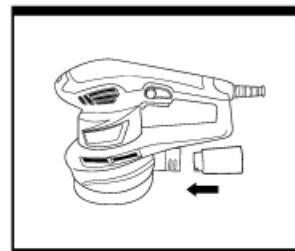

Fig. 4
5. ATTACHING SANDER TO VACUUM (Fig. 4)